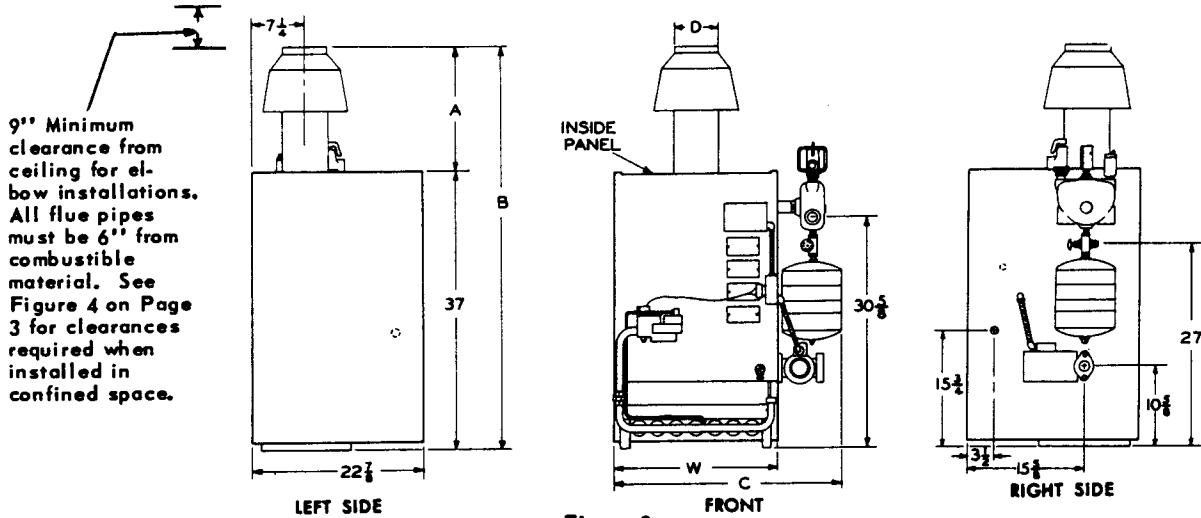

Figure 2
* Note: See Figure 2 on Page 2 for minimum ceiling clearance, when installed in larger rooms